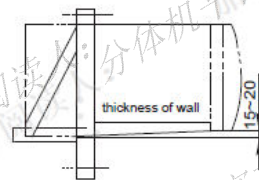
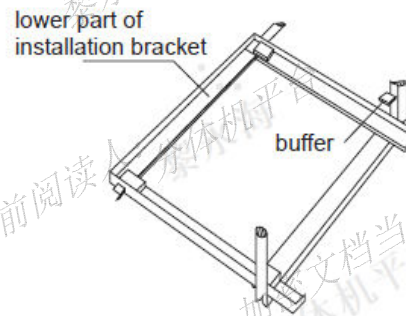

Fig.4
Fig.6
- 4、 The metallic installation bracket should be constructed as fig.4.
3. Put the buffers on the installation bracket as shown in Fig.6. Adjust the appliance as shown in Fig.4.